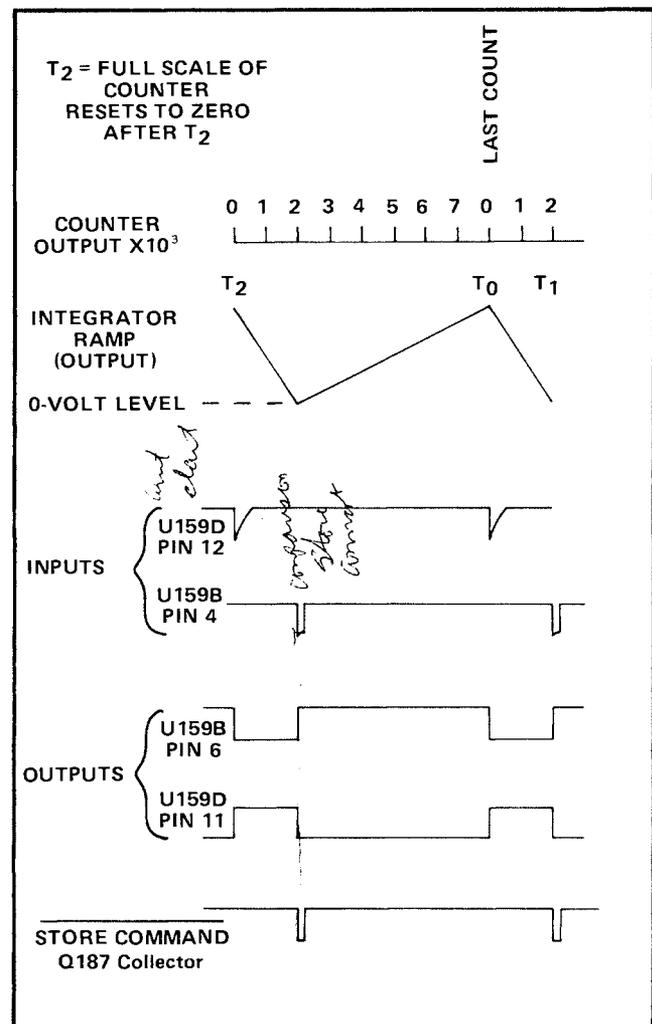

Fig. 3-2. Analog-to-Pulse-Width Converter circuit waveforms showing their relationship to the Counter output.
Fig. 3-2 shows the time relationship of the Counter output and the Analog-to-Pulse-Width Converter circuits. The Integrator ramp waveform represents the Integrator output for a full-scale measurement (e.g., 2.000 V). Regardless of the measurement input, the duration of the ramp remains the same; the positive portion of the ramp always ends at  $T_0$ , corresponding to the Last Count from the Counter.
the ramp and the output of the Zero-crossing Comparator is shown in Fig. 3-2; the input to U159B at pin 4 is the output of the Zero-Crossing Comparator.
**Zero-Crossing Flip-Flop.** The Zero-Crossing Flip-Flop is an RS flip-flop made up of U159B and D. This circuit has two inputs and two complementary outputs, all of which are shown in Fig. 3-2.
The resulting signal at the collector of Q187 is a negative pulse, STORE COMMAND, coincident with the Zero-Crossing input to U159D (see Fig. 3-2). This signal is connected to the Store Command Delay circuit and to the Polarity Indicator circuit.
$I_r$  is sunk from the drain of Q149 to the Floating Power Supply common through CR165, VR164, and Q163 when pin 6-U159B is HI. When the Last Count pulse sets pin 6-U159B to LO, Q163 is turned off to reverse bias CR165.  $I_r$  is now switched through CR150 to the Integrator current-summing point to end the positive portion of the ramp (see Fig. 3-2).